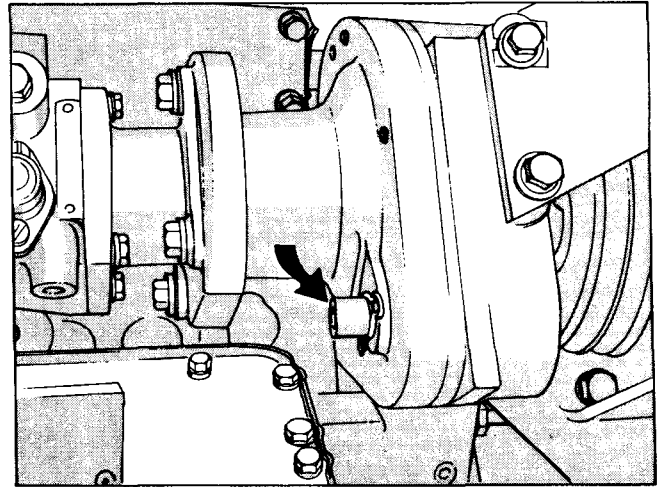

Fig. 2-35, (OM1041L). Barring V-903 Engine
**Note:** Remove the clip, and using either a 3/8 inch hex drive for female type barring device or a 5/8 inch sixpoint socket for the male type barring device, press inward until the barring gear engages the drive gear; then advance. Fig. 2-35. After completion of adjustment, be sure the drive retracts and install the key into the safety lock groove.
Using the regular engine barring device, Fig. 2-35, rotate the engine in the direction of rotation with the "VS" mark for cylinder 2-8 is aligned with the pointer. In this position both the intake and exhaust valve rocker levers for No. 2 cylinder should be free and can be moved up and down. If not, bar the engine